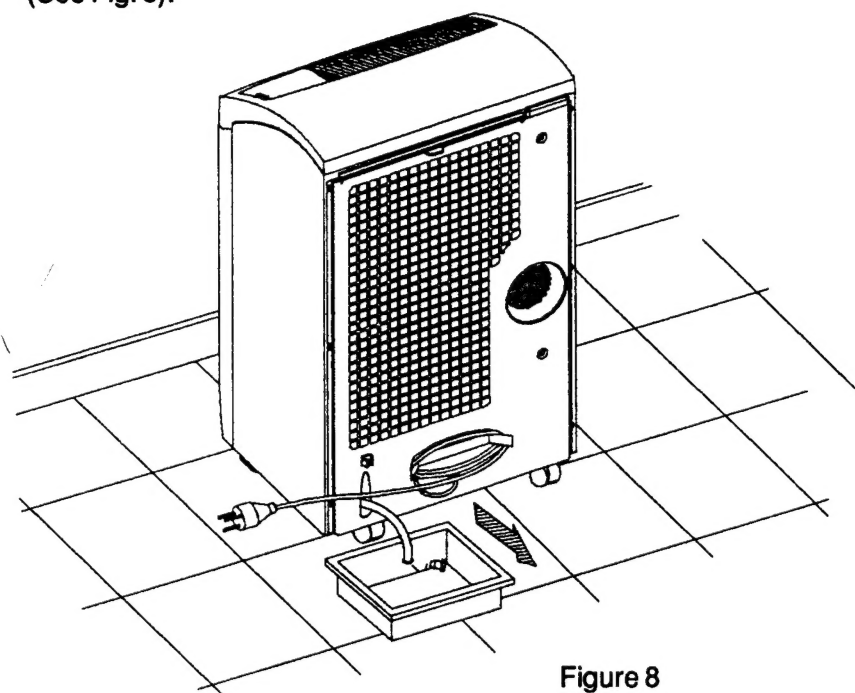

Figure 8
NOTE: At extremely high humidity conditions, operating in cooling or "dry" mode, the water basin may fill up. Indicator (12) will turn-on. At this point the unit will stop. Turn the unit off, drain the water basin and then restart the unit to resume normal operation. To drain the water basin, place a pan under the drain tube and remove the drain tube plug (See Fig. 8).